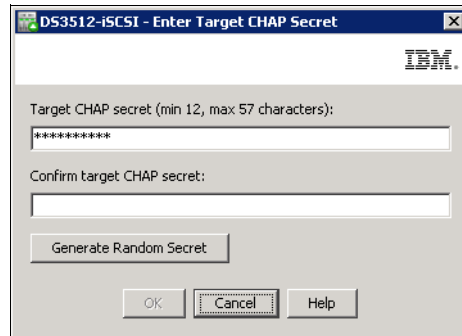

Figure 13-3 Target CHAP secret
3. If CHAP is enabled, define the CHAP target secret by clicking **CHAP Secret**. The Enter Target CHAP Secret window shown in Figure 13-3 on page 314 displays.